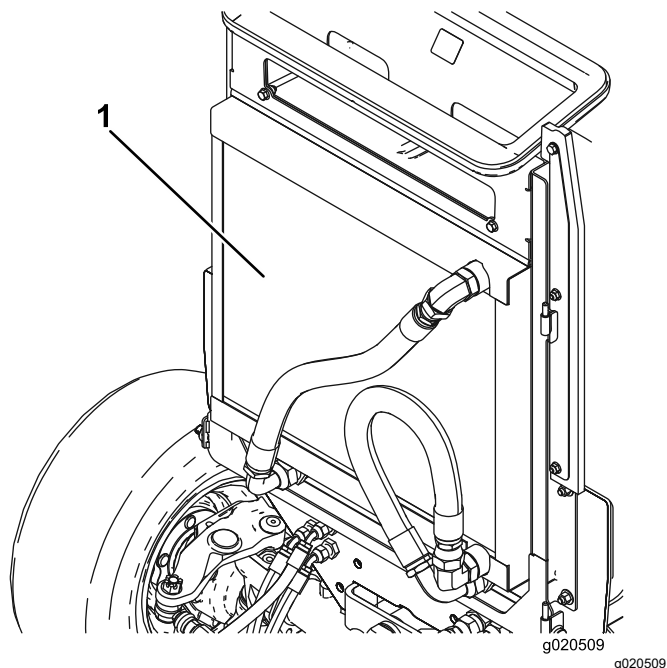

Figure 100
6. Clean both sides of the oil cooler/radiator area (Figure 100) thoroughly with compressed air.